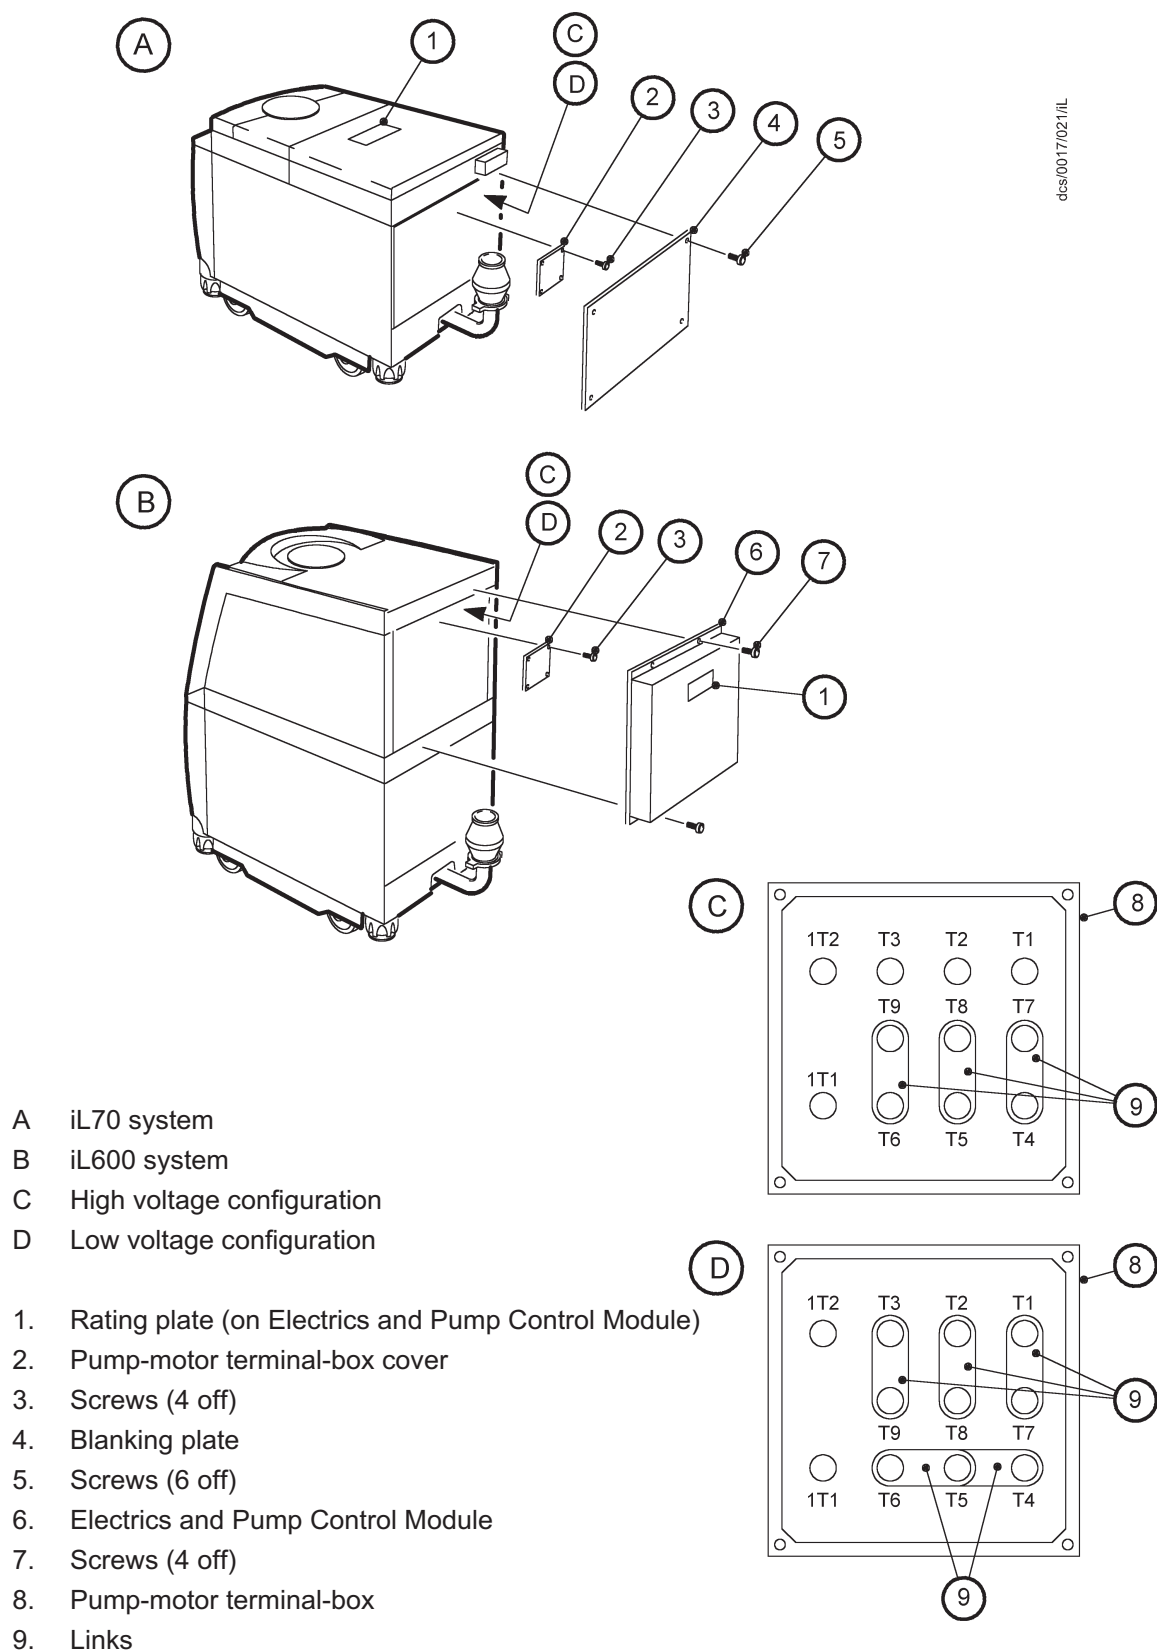

Figure 3-9 - Reconfigure the pump-motor terminal-box (if necessary)
Your iL system will be supplied correctly configured for your electrical supply; the Item Number of the iL system (shown on the rating plate: Figure 3-9, item 1) specifies how the system is configured: refer to Section 2.11.
1. Refer to Figure 3-9 detail A. Undo and remove the six screws (5) which secure the blanking plate (4) over the LCDP pump-motor, and remove the blanking plate.
2. Undo and remove the four screws (3) which secure the cover (2) to the LCDP pump-motor terminal-box.
3. Look at the links in the terminal-box (8):